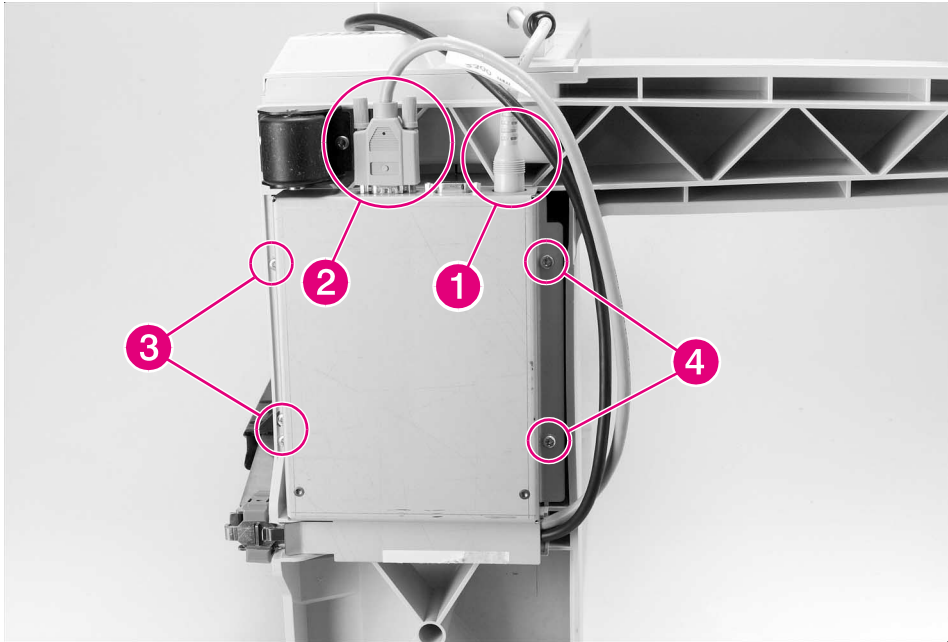

Figure 6-165 8-bin Mailbox Controller PCA (1 of 2)
- 3 Release the Controller PCA Assembly from the bottom of the 8-bin Mailbox frame (see figure 6-165 on page 450, steps 1 through 7).
- 2** Reinstall the 8-bin Mailbox Controller PCA Assembly (see Figure 6-165).
- 2 Locate the power cable that runs from the 8-bin Mailbox Power Supply down to the 8-bin Mailbox Controller PCA, and disconnect the cable from the Controller PCA (Figure 6-165, callout 1).
- 1 Disconnect the power cable and the C-link cable from the 8-bin Mailbox Controller PCA (see Figure 6-165, callouts 1 and 2).